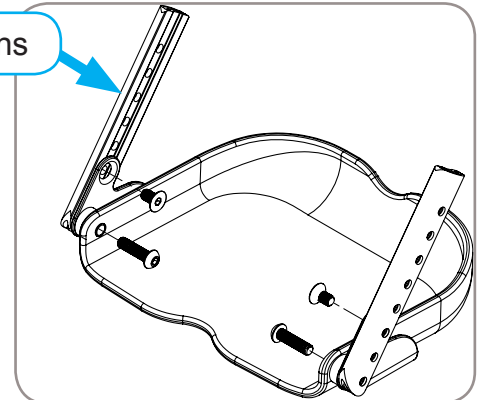

Figure 18
1. Remove bolts as described in previous section. Reference Figure 18.